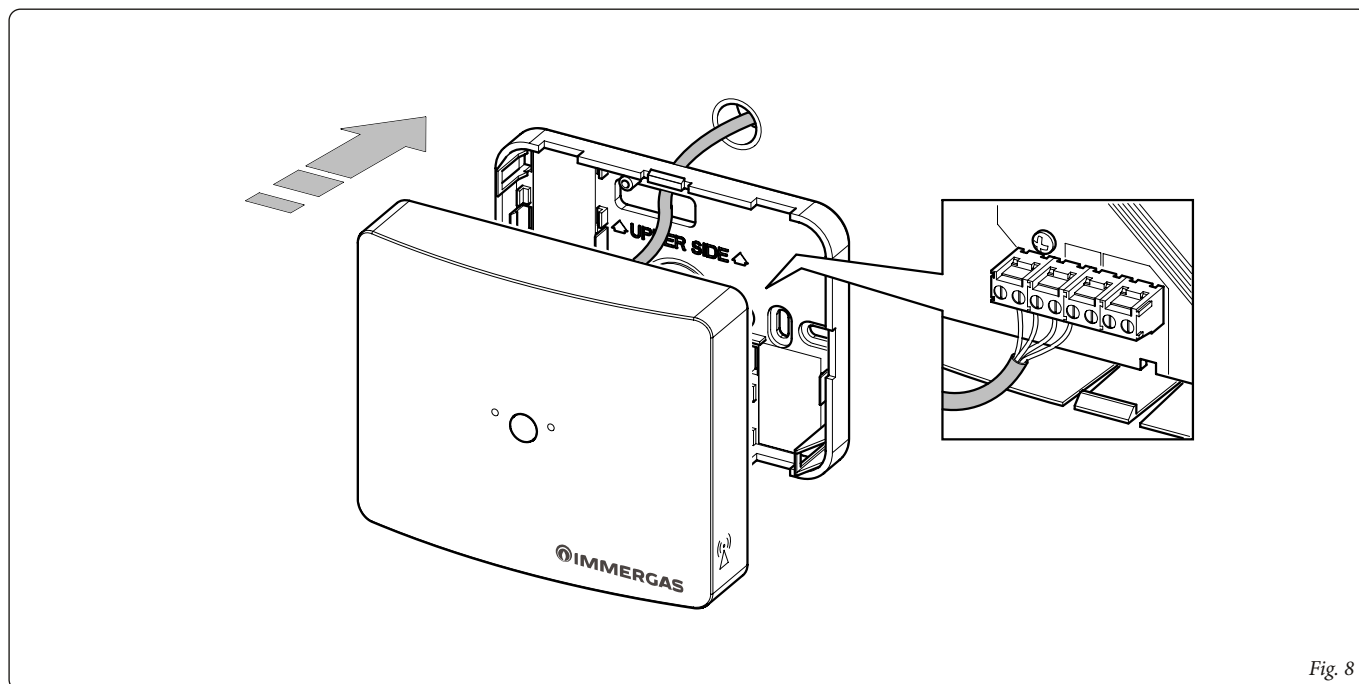

Fig. 8
- 4) Fissare il coperchio del concentratore al supporto innestandolo a pressione (fig. 8).
- 4) Fix the lid of the concentrator to the support by engaging it by pressure (fig. 8).